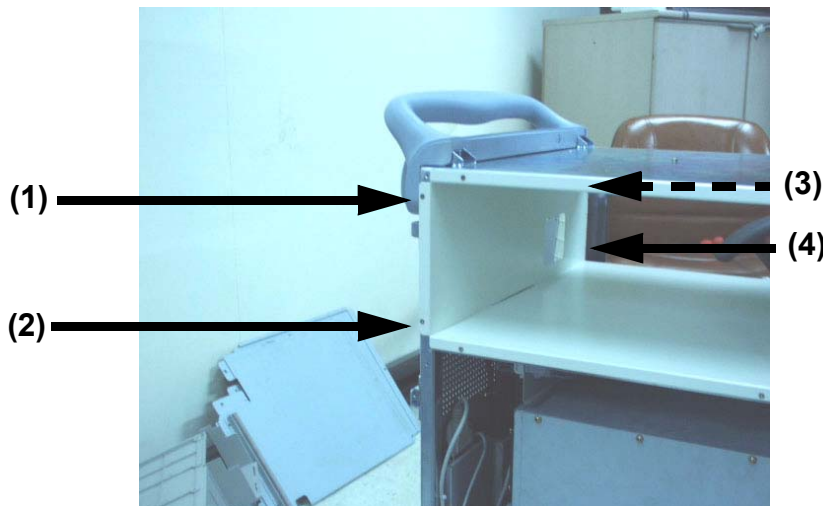

Figure 8-98 Removing the Peri Rear Bracket
- 5.) Unscrew four (4) screws (1-4) to remove peri rear bracket. Refer to Figure 8-98 on page 8-52 .